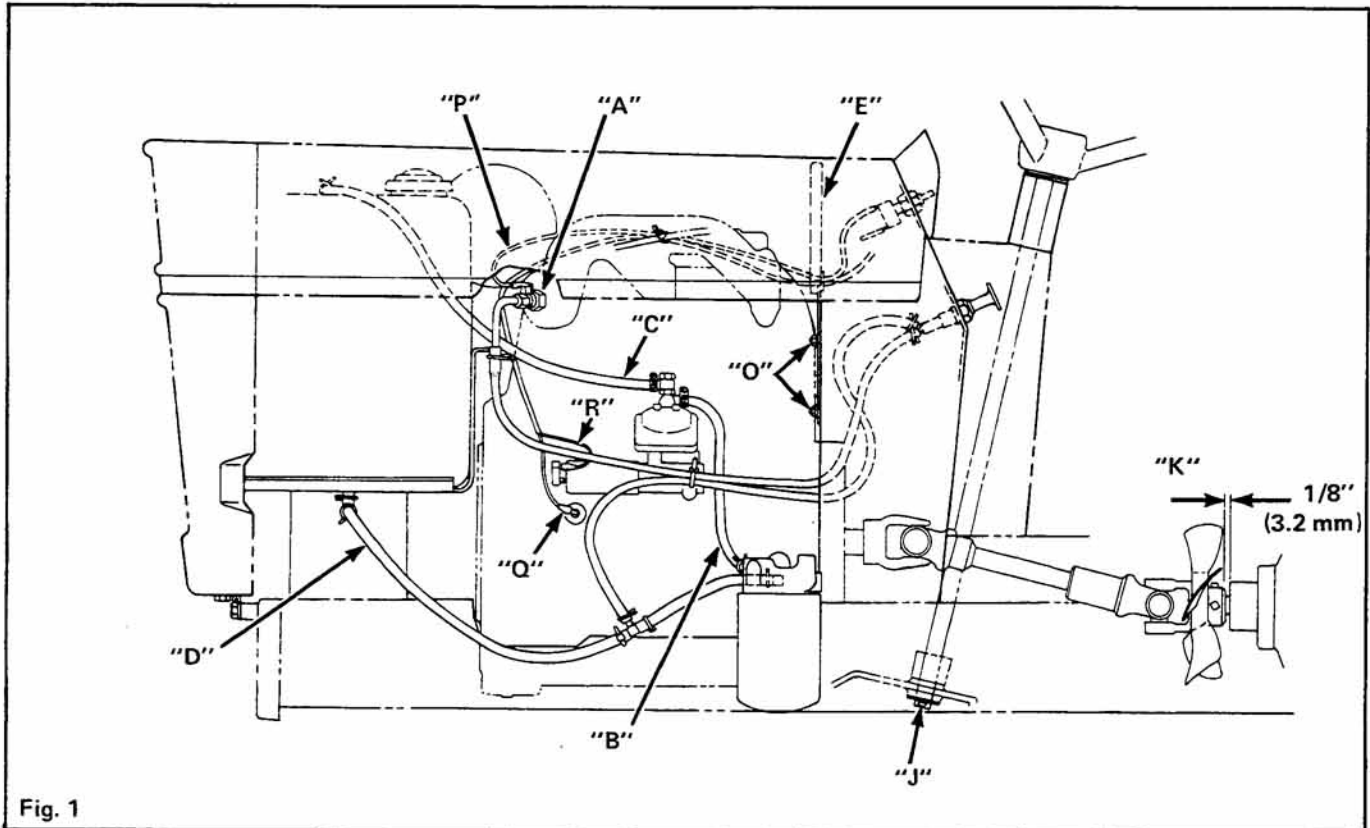
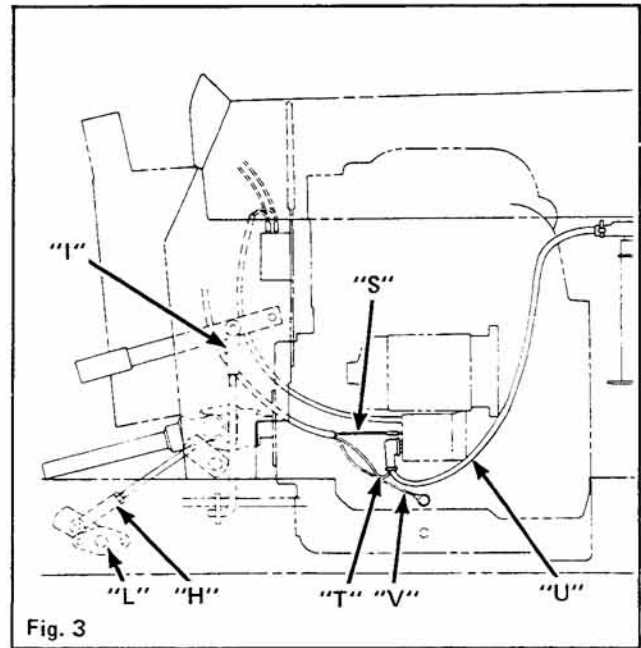
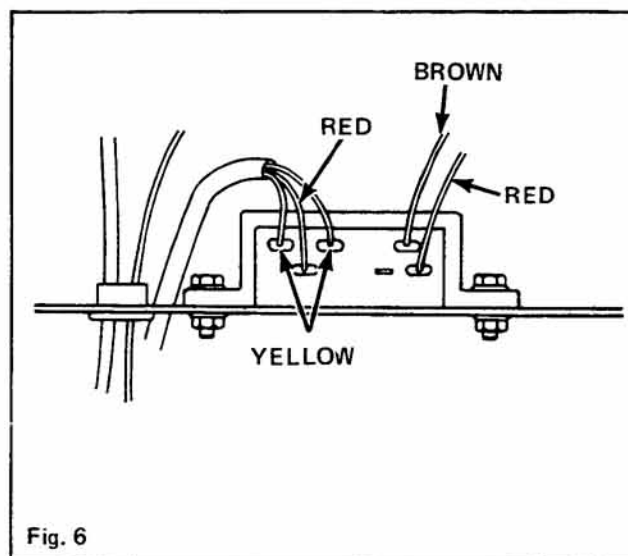

Fig. 1
Fig. 3
Fig. 6
9. Primer hose (A) Fig. 1 at engine.
10. Fuel line (B) from engine to filter.
12. Rear engine heat shield (E) Fig. 1 from instrument panel.
16. The (4) engine cradle mounting screws.
18. Brake rod (H) Fig. 3 from center shaft.
19. PTO rod (I) Fig. 3 inside instrument panel.
20. Pin (J) Fig. 1 on bottom of steering shaft.
22. Drive shaft (K) Fig. 1 at hydro end.
23. Disconnect control valve from instrument panel by removing the (2) mounting screws through panel.
1. Position engine with drive shaft into frame. Make sure drive shaft is over center cross shaft (L) Fig. 3 of frame.
4. Slide rear drive shaft (K) Fig. 1 over front drive shaft and secure to hydro input shaft. End of drive shaft must be approximately 1/8" (3.2 mm) from end of hydro.
6. Reinstall pin (J) Fig. 1 into steering shaft.
7. Reconnect hydro control rod to hydro arm, brake rod (H) Fig. 3 to center cross shaft and PTO rod (I) to PTO hand control.
12. Place star washers over studs (O) Fig. 1 on rear of instrument panel. Insert wiring harness and throttle control through rear engine heat shield. Secure shield on R.H. side using flange nuts. Secure muffler shield and engine shield on L.H. side using flange nuts.
14. Install short engine fuel line (B) Fig. 1 to filter manifold.
15. Connect primer hose at engine at point (A).
- A. Single black wire (P) Fig. 1 from engine temp. switch, if equipped, to engine at manifold.
- B. Gray wire from wiring harness to engine oil pressure switch (Q) L.H. side.
- C. Yellow with red stripe from harness to fuel solenoid (R) L.H. side.
- D. Red with yellow stripe to back of starter solenoid (S) Fig. 3 R.H. side.
- E. Red wire (T) of harness and positive red wire of battery (U) to screw terminal on starter.
- F. Secure black lead (V) of harness to R.H. engine cradle with (2) star washers and screw.
- G. Two yellow and one read lead of harness to regulator as shown in Fig. 6.
- H. Red and brown lead of harness to regulator as shown in Fig. 6.
18. Connect fuel tank to support. Connect fuel line (C) Fig. 1 from tank to L.H. side of engine. Route line under muffler support rod.
19. Route fuel line (D) Fig. 1 filter manifold over L.H. front engine mount and secure under fuel tank.
26. Connect RED lead (V) Fig. 3 from starter to POSITIVE post.